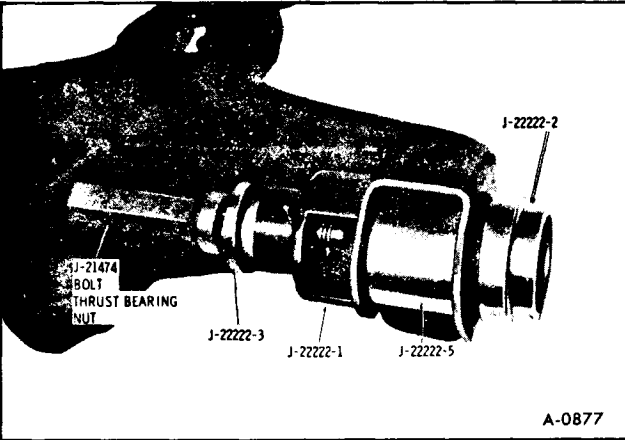

Figure 23—Installing Lower Control Arm Front Bushing
**NOTE:** Due to the torsion bar anchor attachment to the lower control arm, it will be necessary to use a hardened 1/2" x 20 nut as shown in Figure 23 to install the front bushing.